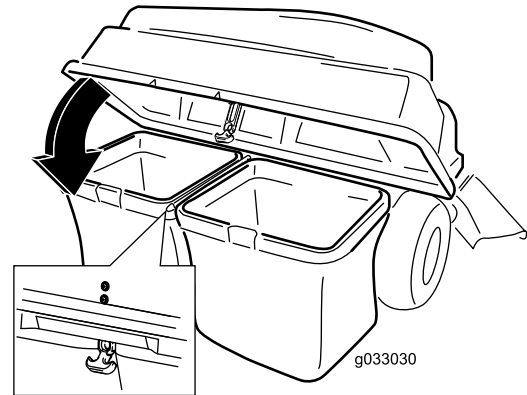

Figure 13
5. Lower the bagger top onto the bags (Figure 13).